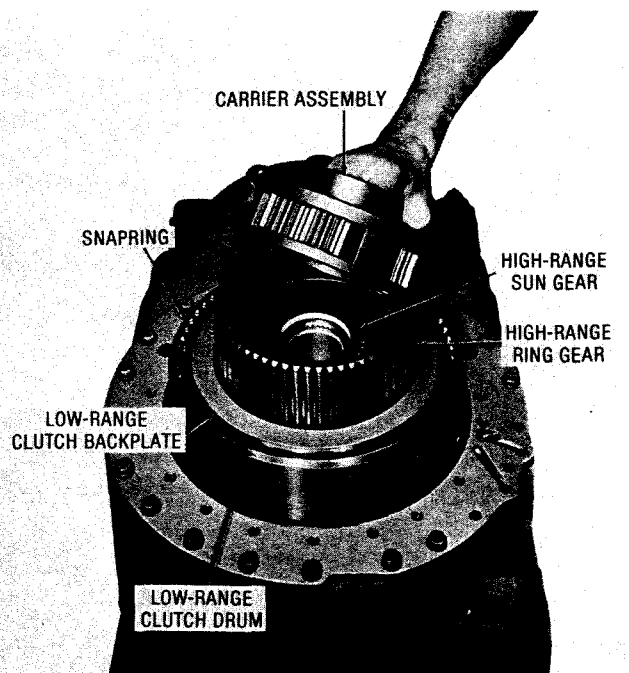

Fig. 5-36. Removing high-range planetary carrier assembly (TRT 2221-1, 2421-1)
(7) Lift the high-range planetary carrier assembly out of the ring gear (fig. 5-36). Refer to paragraph 6-25 for rebuild of the planetary carrier assembly. Remove the sun gear and thrust washer assembly. Remove
(8) Remove the internal snapring which retains low-range clutch backplate (fig. 5-36).
(9) Lift out the ring gear, bringing with it the backplate, three internal-splined